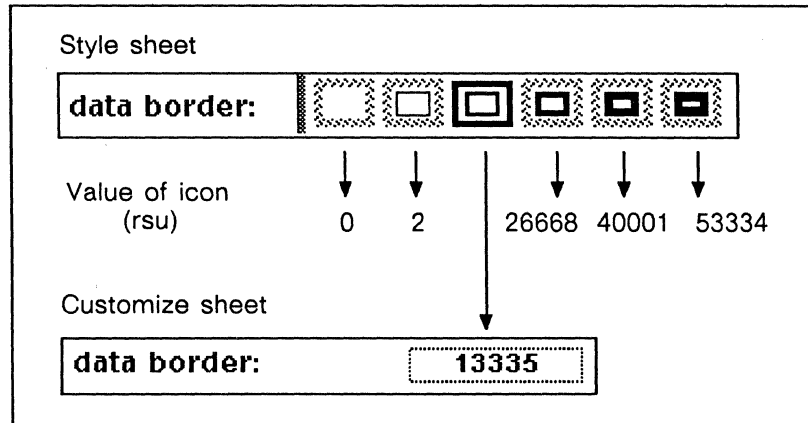

Figure 29-13. Numeric value of data border icons
**Data border.** On the Style sheet you can select one of six icons to determine the thickness of the border around the data. Each of these icons represents an rsu value on the Customize sheet (Figure 29-13). To produce a thicker data border or one that falls between the settings offered on the Style sheet, modify the value of *data border* on the Customize sheet.